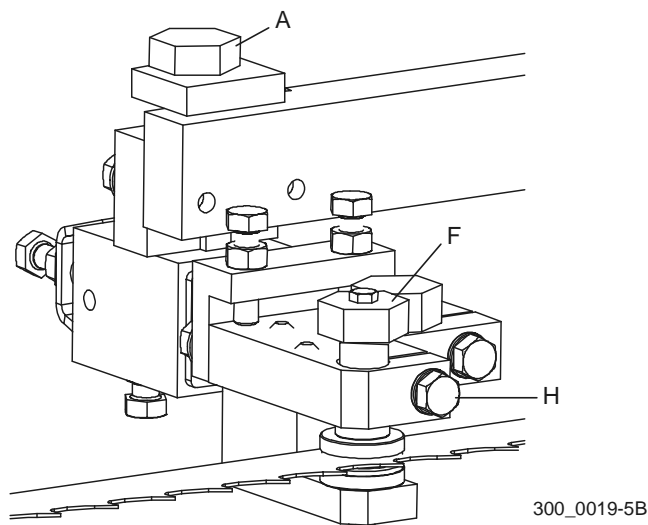

FIG. 5-11
See Figure 5-11. Turn bolt (F) counterclockwise to raise the top guide disk off the blade. Turn bolt (A) counterclockwise to lower the bottom guide disk.